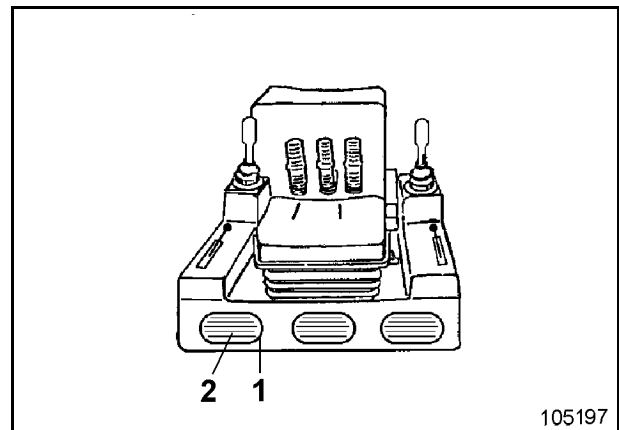

Fig. 3-155:
- ➔ Remove cover (1, Fig. 3-155:-)
- ➔ Change filter mats (2)
- ➔ Fasten cover (1) again.